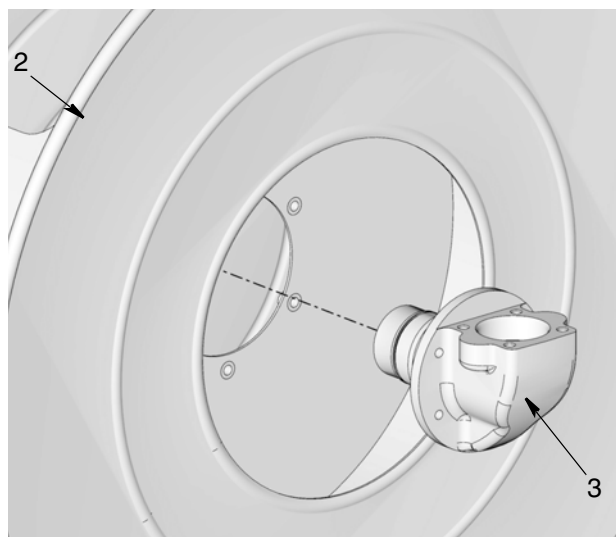

FIG. 30
16. Remove Swivel (3) from spool.
- a. Remove swivel (3) from spool (2) (FIG. 30).